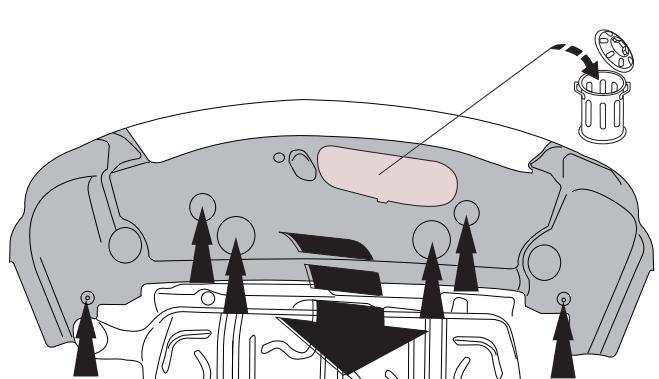

Fig. 2
2. Remove the plastic cover plate in the centre on the underside. (see fig 2).